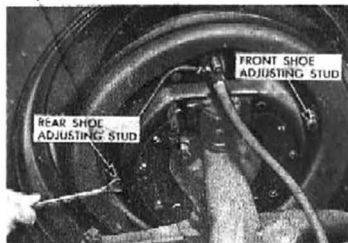

Fig. 51—Adjusting Type "F" Brakes.
1. Jack up axle. Place wrench on one adjusting cam stud to adjust one shoe (fig. 51). Rotate wrench in direction of forward wheel rotation to decrease lining to drum clearance. Reduce clearance until brake drag is felt as wheel is turned in forward direction by hand.